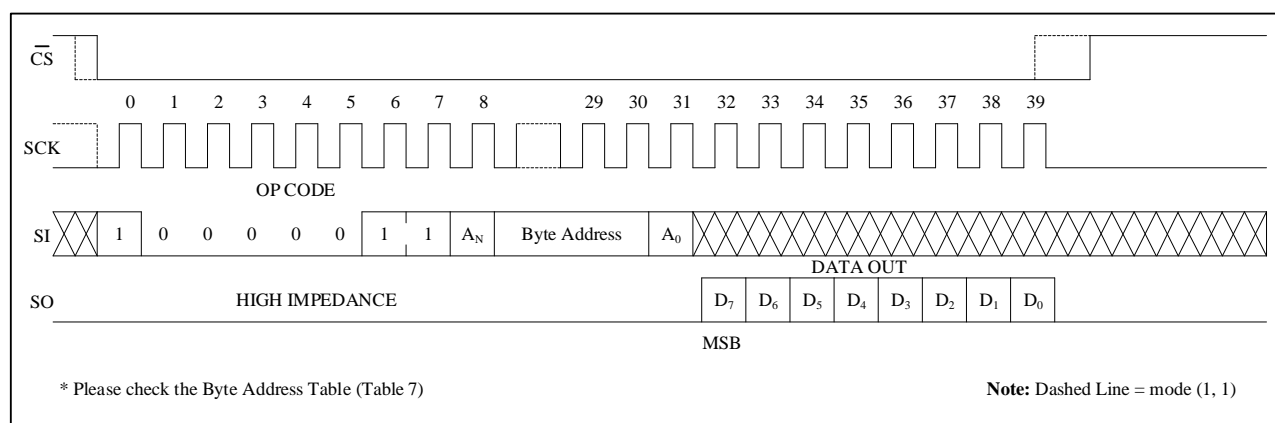

Figure 11
Read Identification Page: Reading the additional 256-byte Identification Page (IP) is achieved using the RDID instruction, according to timing shown in Figure 11. Address bit A10 must be 0, upper address bits are Don't Care, the lower address bits [A7:A0] address bits define the byte address inside the identification page. The byte address must not exceed the 256-byte page boundary.
Read Identification Page Lock Status: To read Identification Page Lock status, the host simply sends a RDLS command, according to timing shown in Figure 11. The address bit A10 must be 1, all other address bits are Don't Care. The Lock bit is the bit0 of the byte read on the SO pin. It is at "1" when the lock is active and at "0" when the lock is not active. The same data byte may be read at any time, including during an internal write cycle.